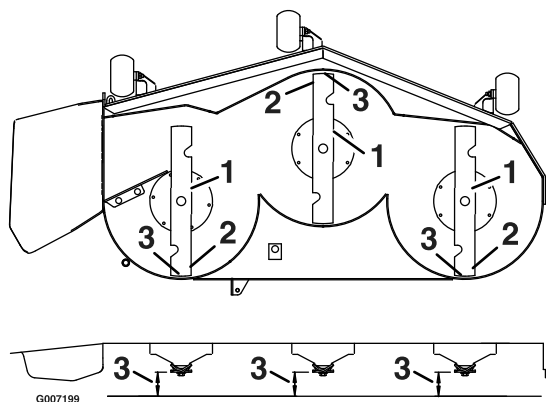

Figure 63
3. Carefully rotate the blades so they are facing front to rear (Figure 63).
4. Measure from the tip of the front blade to the flat surface and the tip of the rear blade to the flat surface (Figure 63). If the front blade tip is not 1/16-5/16 inch (1.6-7.9 mm) lower than the rear blade tip, continue to the Leveling the Mower Deck procedure.